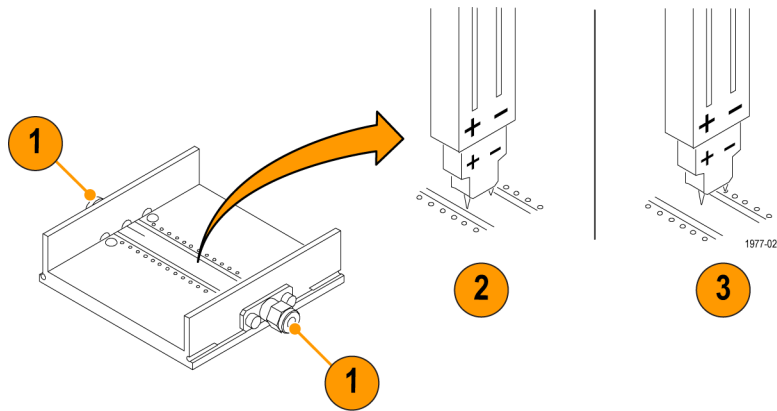

Figure 8: Probe calibration fixture connections
The Probe calibration fixture, Tektronix part number 067-0419-xx, provides a means to check the rise time specification of the probe. (See Figure 8.) A probe positioner can be helpful to keep the probe in contact with the fixture.
17. Probe the DM pins on the Probe Calibration Fixture. A probe positioner may be helpful. (See Figure 8 on page 12.)